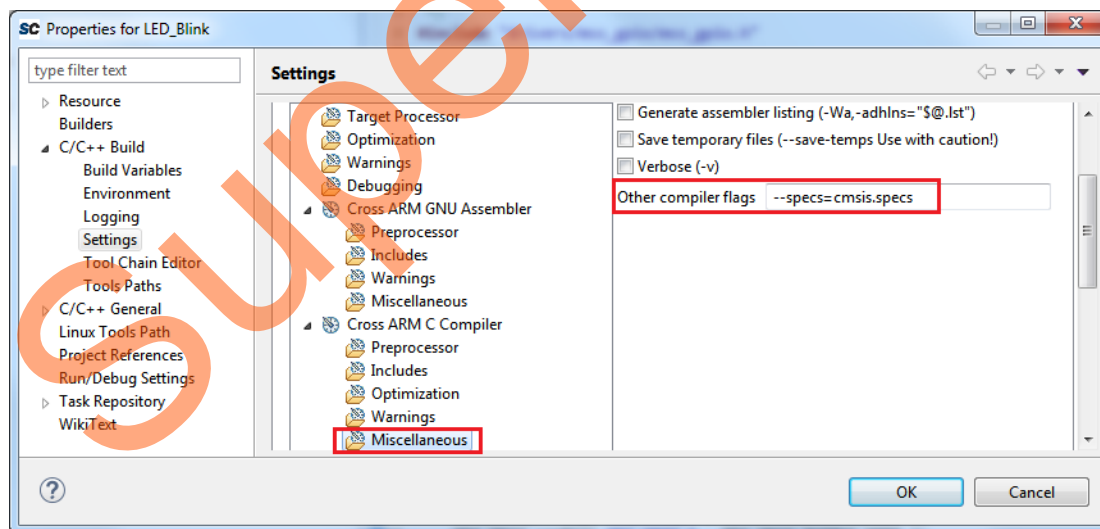

Figure 35 • Properties for LED_Blink - Miscellaneous
17. Under **Cross ARM C compiler**, click **Miscellaneous** and enter **--specs=cmis.specs**, in **Other compiler flags** text box as shown in Figure 35.